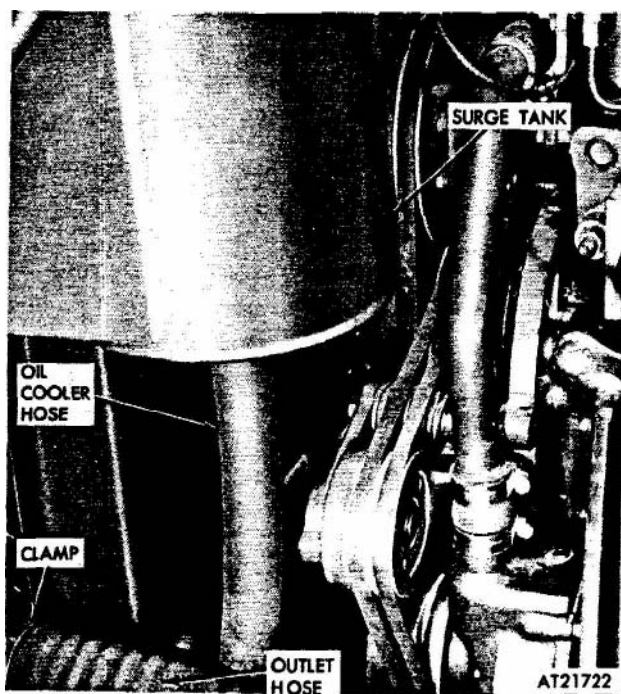

Figure 2-68. Radiator lower disconnect points.
(20) Disconnect radiator outlet hose by loosening hose clamp (fig 2-68).
(22) Disconnect oil cooler hose at **bottom** of surge tank by loosening hose clamp (fig 2-68).
(11) Connect oil cooler hose to bottom of surge tank, position and tighten clamp (fig 2-68).
(13) Connect radiator outlet hose to radiator, position and tighten clamps (fig 2-68).